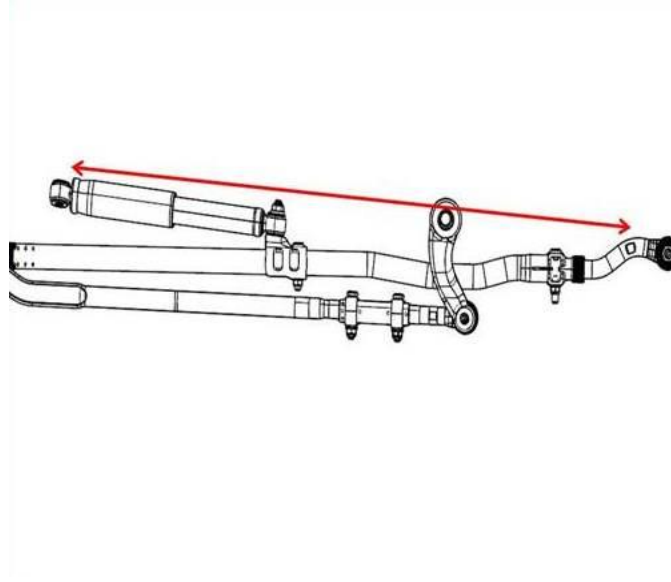

**Fig. 6 Steering Stabilizer**
18. Install the stabilizer body (1) onto the bracket and reuse the production fasteners (Fig. 6). Tighten the nut (2) to 68 N·m (50 ft-lbs).